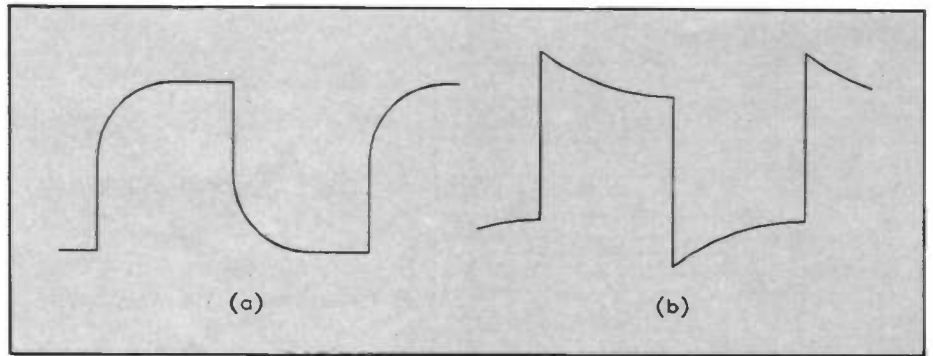

Figure 7. Distortion possible in square-waves: (a), by integration; (b), by differentiation.
In the case of the latter, the waveform may be degraded from the ideal by RC time-constants that are encountered in the transmission path. Depending upon the nature of these, the waveform will appear as in Figure 7(a) and (b). The waveforms are said to have been 'integrated' and 'differentiated' respectively. The degree of degradation of waveform (a) can be measured by
- (ii) The response of the CRO to square-waves of medium to high frequency is also reduced, producing distortion in the displayed square-wave of the form shown in Figure 7(a).
determining the rise and fall times (which, being time measurements, will be discussed in the next article), while the degradation of waveform (b) can be determined by measuring the 'sag'. This is the vertical difference in voltage between the two levels, A and B, indicated in Figure 7(b). This is carried out by using the X and Y shift controls to position the two levels, one at a time, against the major Y axis, measuring the vertical distance between them, and converting this to a voltage in the usual way. The greater the sag, the worse the waveform. This is an effect that usually occurs at low frequencies, and it is one of the ways in which the bandwidth performance of an audio amplifier can be assessed.